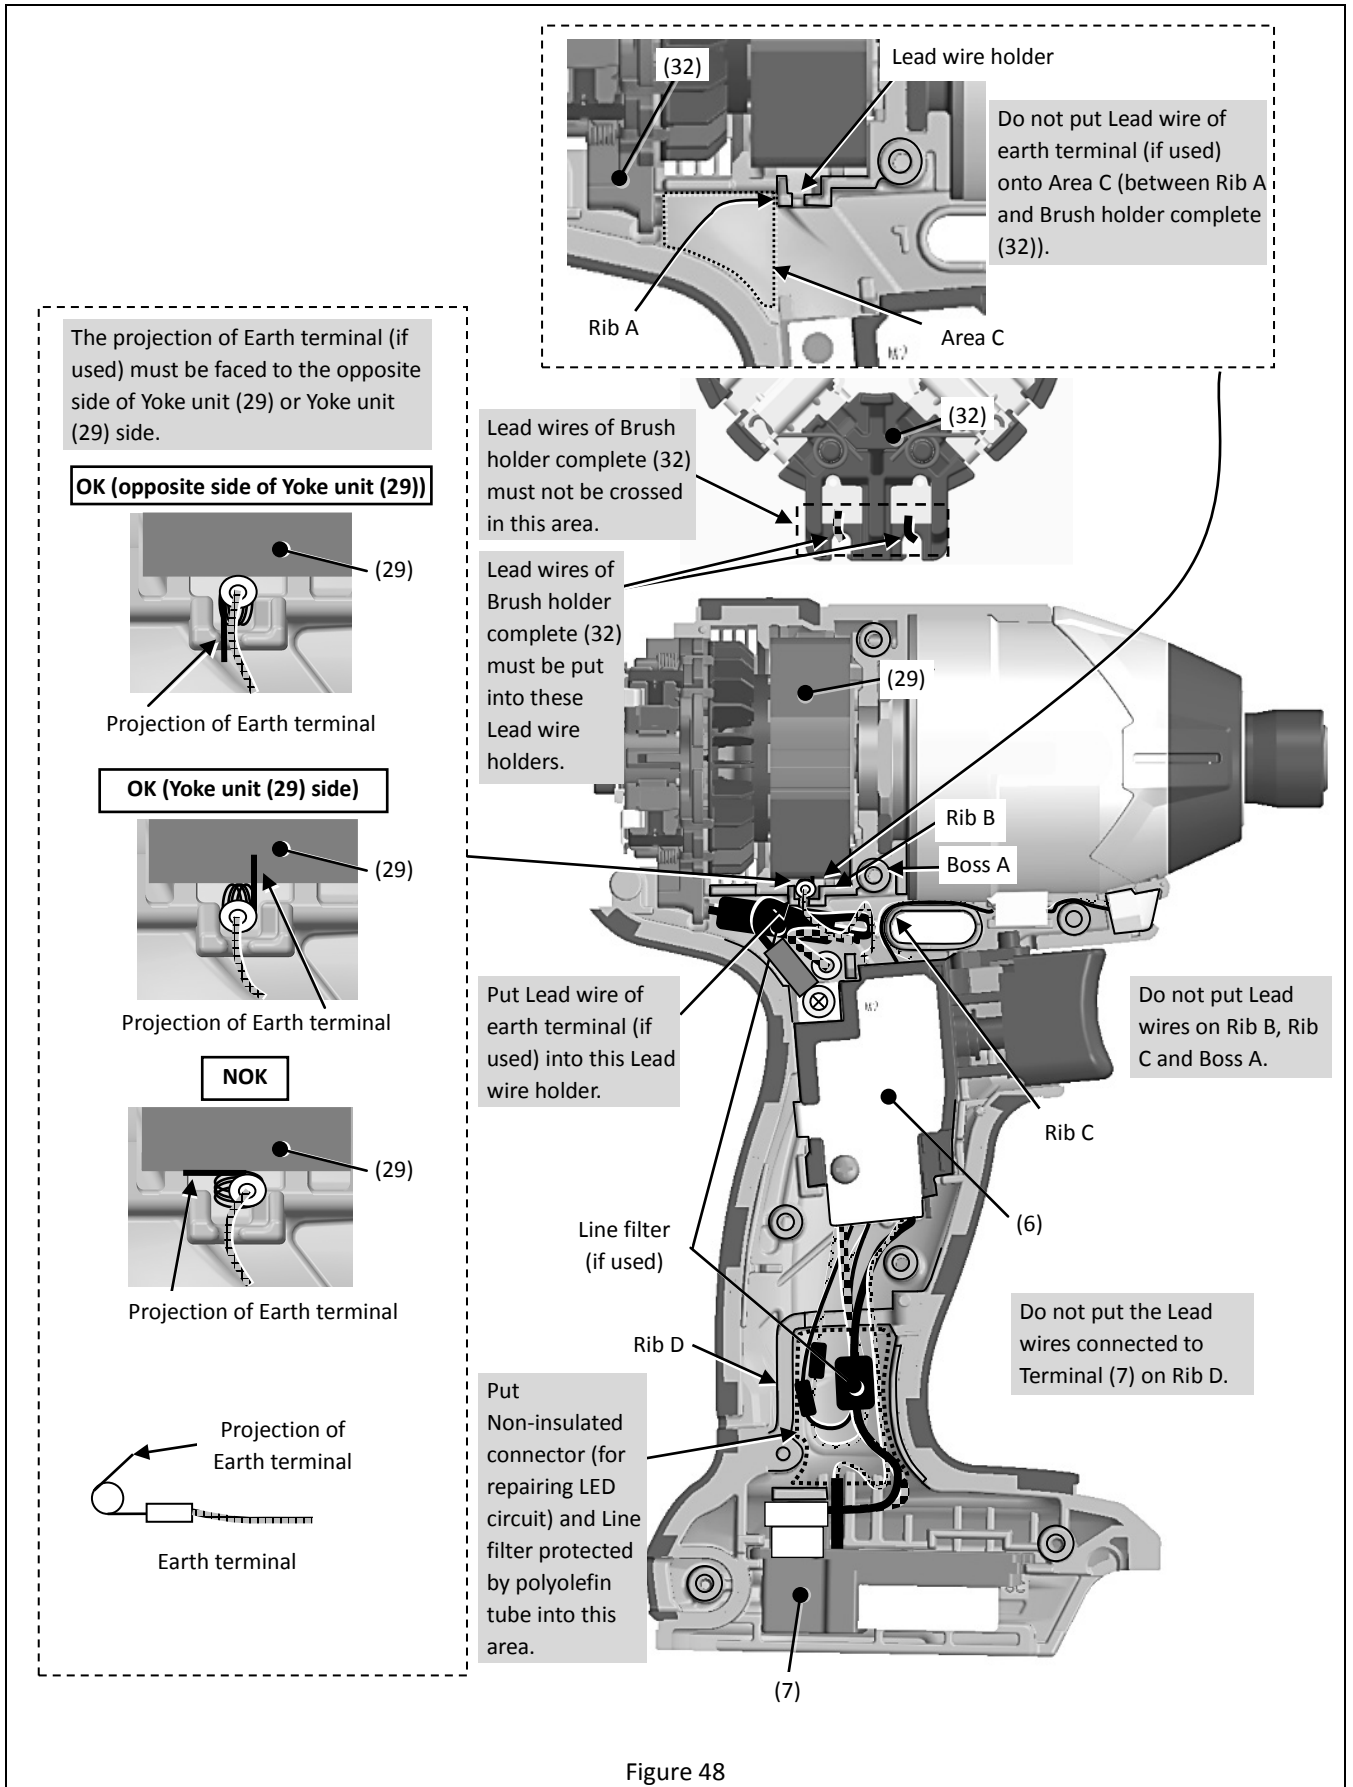

Figure 48
- When repairing, put terminals in the designated position shown in Figure 48. (Cut lead wires if necessary.)